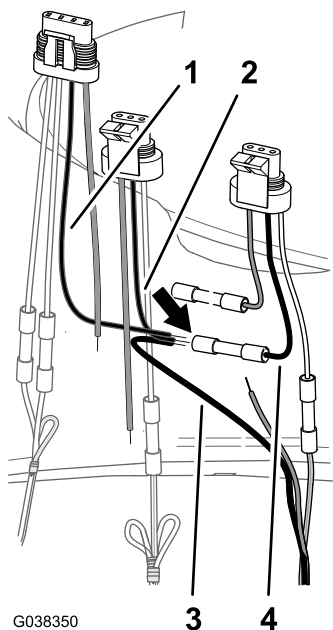

Figure 46
3. Align the black wire of the 4-pin adapter for the rate valve and the black wire of the 3-pin adapter of the agitation valve, and the blue wire of the DIN wire harness with the black wire of the 3-pin adapter for the master-spray valve; refer to the wire table for the master-spray valve (Figure 46).